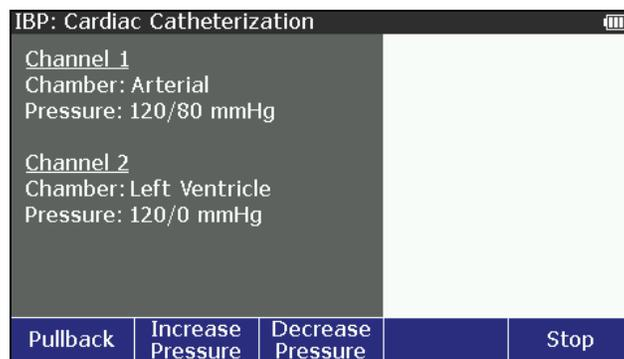

Figure 23. Aortic Valve Catheterization Simulation Screen
1. Push the **Insert** softkey to simulate the insertion of IBP channel 2 catheter into the left ventricle at 120/0. Figure 23 shows the screen for the aortic valve catheterization simulation.